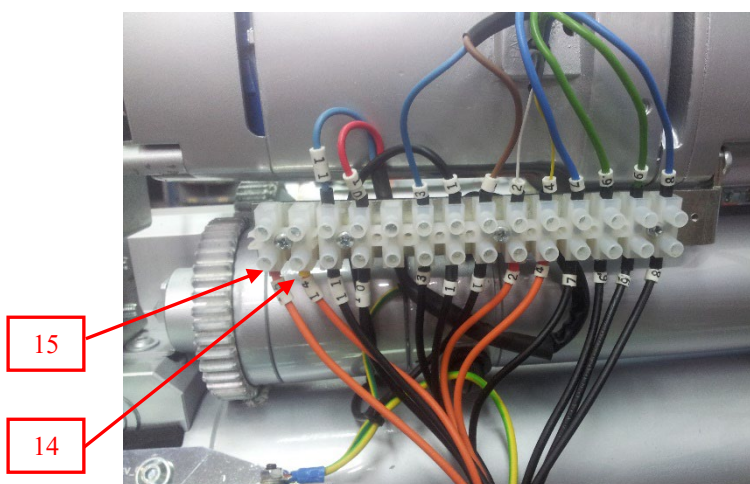

Figure 5.7
5.1.13 Proceed to disconnect the cables marked with numbers 14-15 on the terminal board, (see figure 5.7).